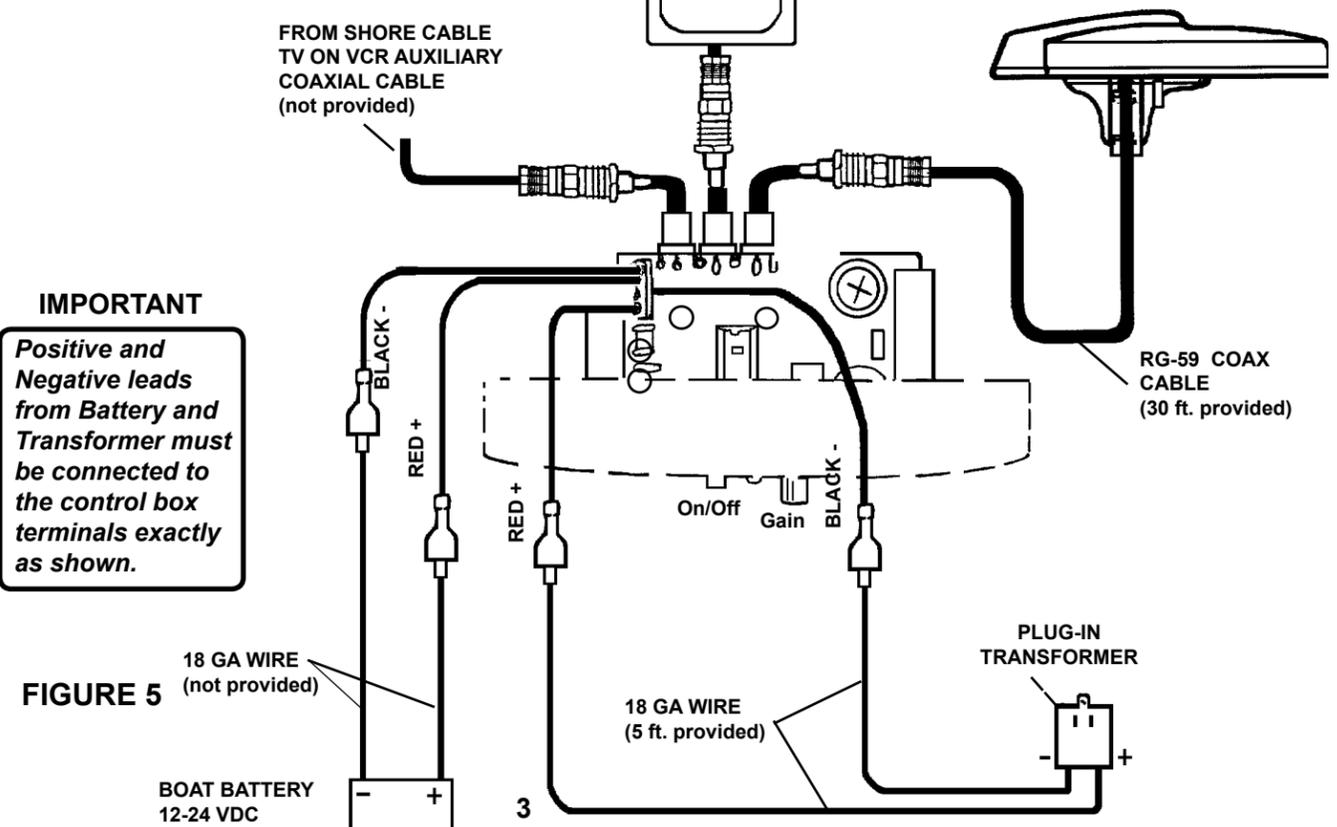

FIGURE 5
3. To connect a 12-24 VDC power source to the back of the control box, install two (#12) quick disconnect terminals on an 18-ga. insulated wire (not provided). Be sure to observe correct polarity when making these connections. See Figure 5.